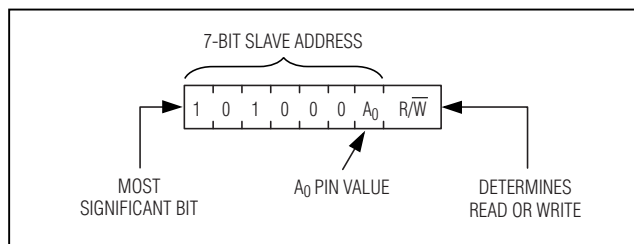

Figure 10. DS3984's Slave Address Byte
**Slave Address Byte:** Each slave on the I2C bus responds to a slave addressing byte sent immediately following a start condition. The slave address byte (Figure 10) contains the slave address in the most significant seven bits and the R/W bit in the least significant bit.